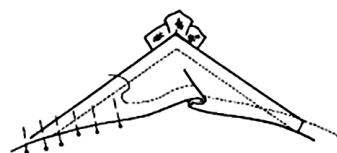
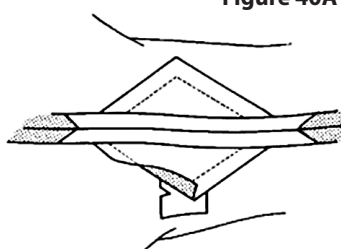

Figure 40A
Figure 40B
4. With right sides together, pin garment back to front at the underarm seam and side seams (Figure 40A). Be sure intersecting lines of gusset edge and other markings match; stitch. Press seam open (Figure 40B) and finish seam allowances appropriately for fabric.